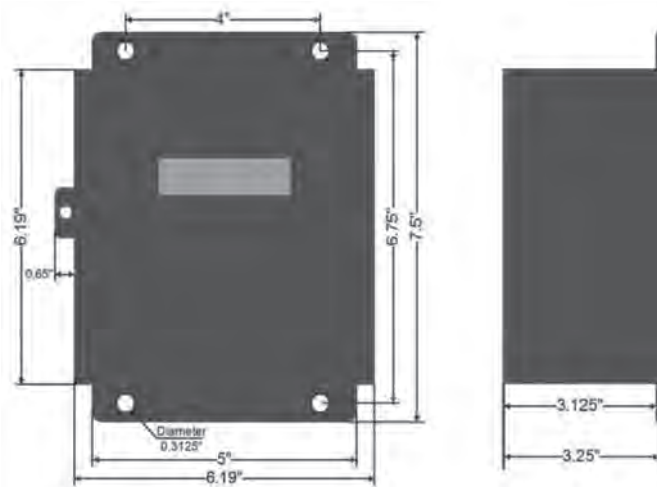

Figure 1 - Steel enclosure dimensions
1. Industrial grade JIC steel enclosures for indoor installations shown in Figure 1